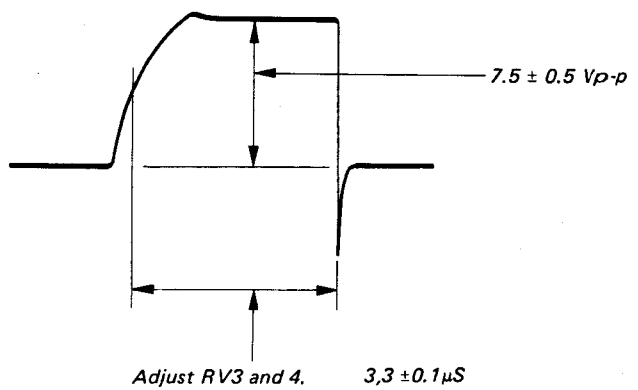

Fig. 5-126.
3. Connect the probe to TP4 on the BC board and adjust RV3 for a BRT CLAMP PULSE width of $3.3\mu\text{s}$. Check that the pulse voltage is $7.5 \pm 0.5 \text{ Vp-p}$. (See Fig. 5-126.)
4. Connect the probe to TP6 on the BC board, adjust RV4 for a WHITE CLAMP PULSE width of $3.3\mu\text{s}$, and check that the pulse voltage is $7.5 \pm 0.5 \text{ Vp-p}$. (See Fig. 5-126.)